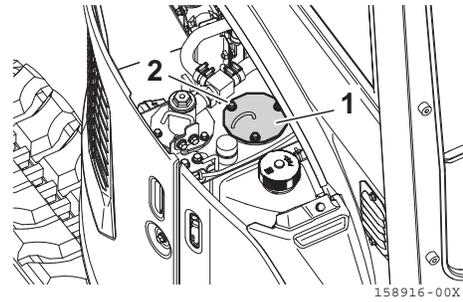

Fig. 8-56
9. Open the front cover (right), and clean the cover (Fig. 8-56, 1) mount on the upper side of the hydraulic tank with a waste cloth or other.
10. Slowly loosen the bolt (Fig. 8-56, 2) to remove the cover (Fig. 8-56, 1).